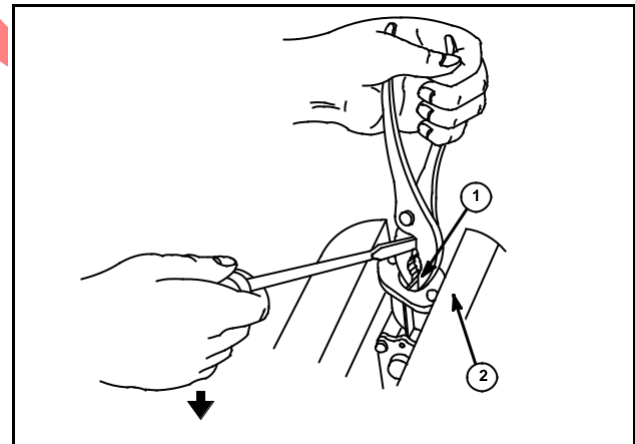

Fig. 70
1. To remove, clamp carburetor in a vise (2) with smooth jaws about half an inch below top of jaws.
2. Grasp spiral firmly with a pair of pliers, as shown, Fig. 70.